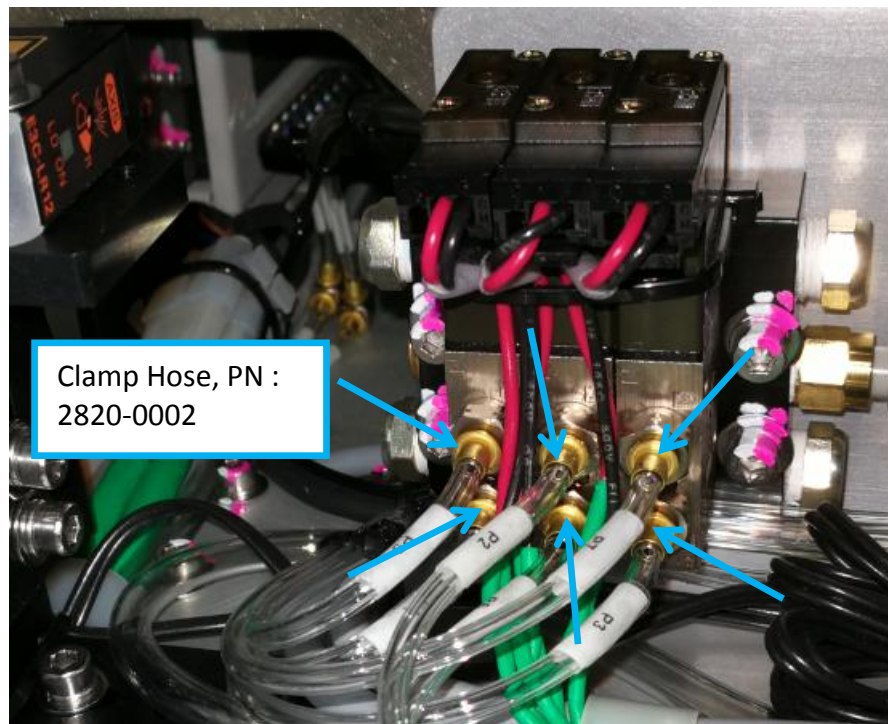

Figure 14 Clamp Hose Assembly
13. Connect 6 x Clamp Hose (PN : 2820-0002) as below Figure 14